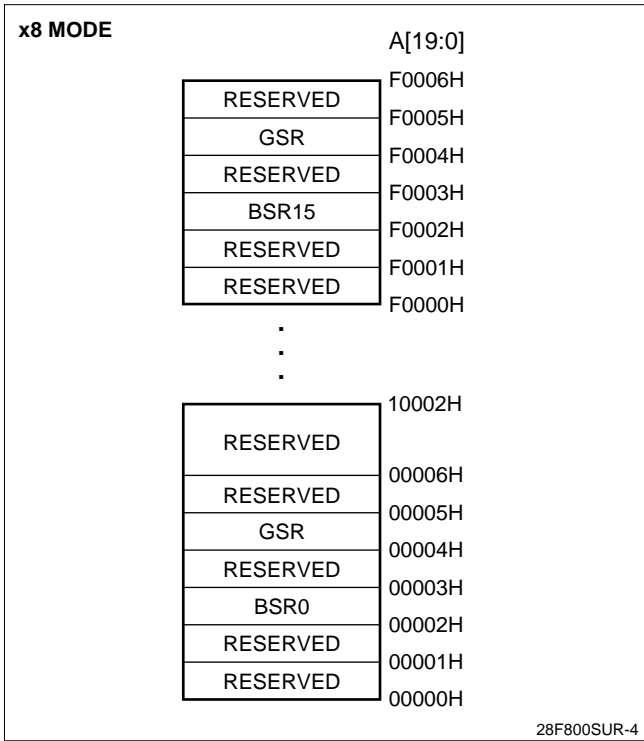

Figure 5. Extended Status Register Memory Map (Byte-Wide Mode)
The GSR and BSR memory maps for Byte-Wide and Word-Wide modes are shown in Figures 5 and 6.
1. RA can be the GSR address or any BSR address. See Figure 5 and 6 for Extended Status Register Memory Maps.